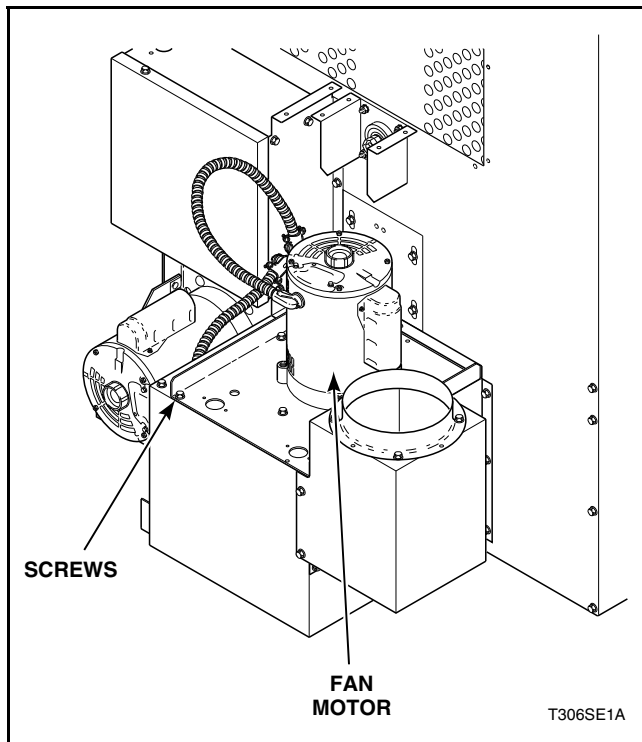

Figure 38
Refer to *Figure 38*.
- Remove ten screws holding fan motor assembly to blower housing. Refer to *Figure 38*.